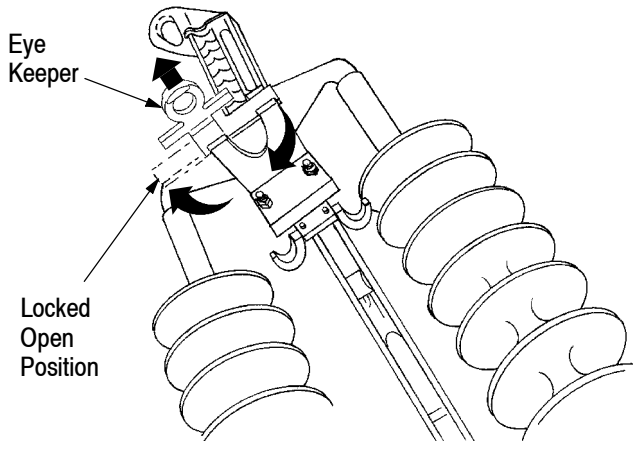

Figure 2
3. Lift and pivot each eye keeper 180° to the locked open position. See Figure 2.